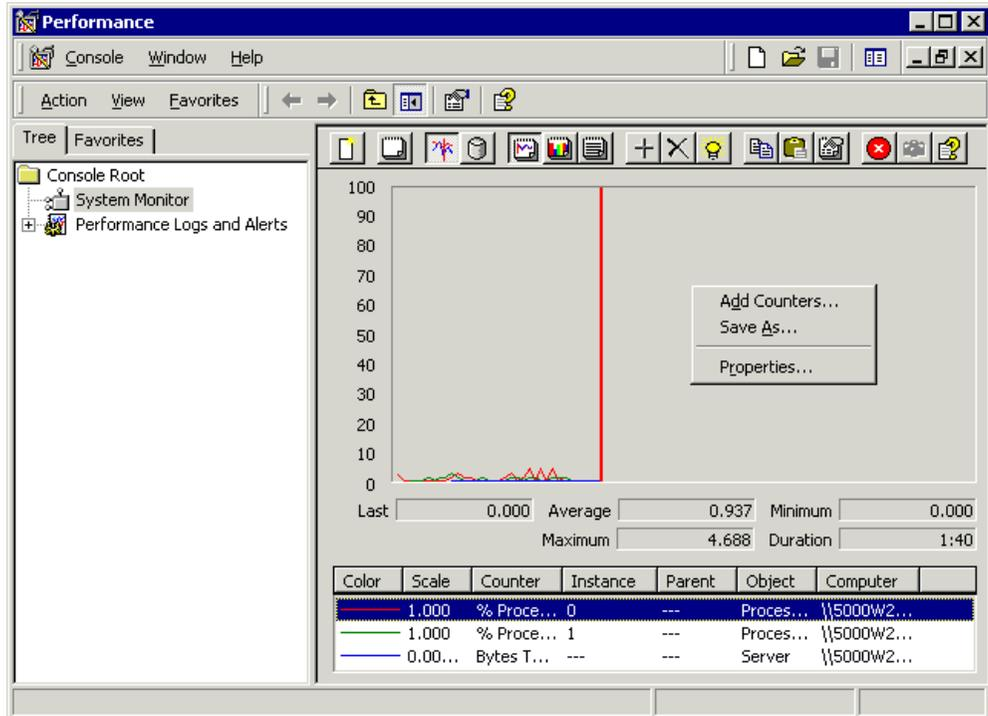

Figure 124. Saving objects and counters
1. Right-click in the right pane shown in Figure 124 and click **Save As**.